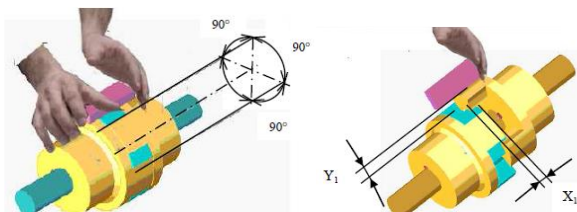

Figure 3: The Control of the Coupling Alignment in Horizontal and Vertical Planes
2. Angular Misalignment (Figure 3)